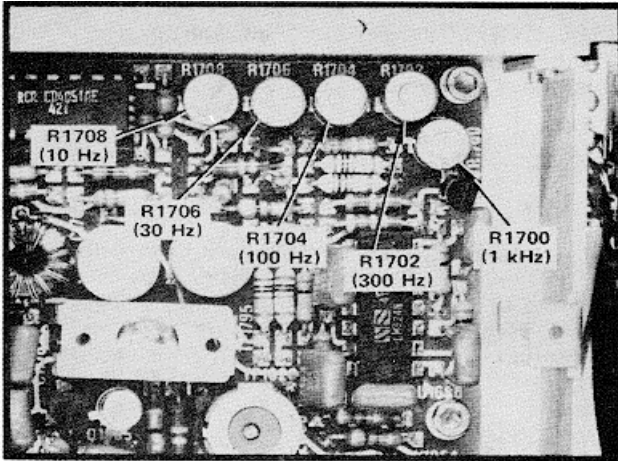

Fig. 4-18. Bandwidth adjustments for Variable Resolution Amplifier.
g. ---Calibrate the resolution bandwidth (6 dB down) for the 1 kHz to 30 Hz RESOLUTION positions by decreasing the resolution bandwidth and FREQUENCY SPAN/DIV settings sequentially and adjusting the respective bandwidth with R1700 (1 kHz), R1702 (300 Hz), R1704 (100 Hz), and R1706 (30 Hz). See Fig. 4-18 for adjustment locations.
h. --- Switch the RESOLUTION to 10 Hz. Adjust the 10 bandwidth with R1708 (Fig. 4-18) so the bandwidth, 70 down, is 100 Hz  $\pm$ 20 Hz.